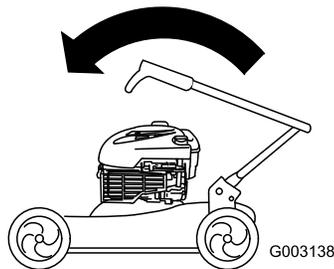

Figure 37
3. Fold the upper handle forward as shown in Figure 37.